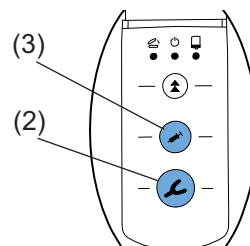

Fig. 8
- If a button is pressed, such as extrude (impression material (2, fig. 8) or dispense (3, fig. 8), without having previously selected a programme, the device will automatically activate the (ST) programme.
- The LED next to the (ST) key goes on.
- Press and hold down the advance key (2) or (3) (depending on the desired speed or function):
- Impression tray (2), fast extrusion speed
- Dispenser (3), slow extrusion speed